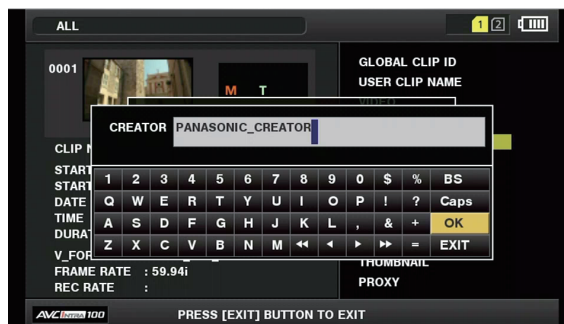

Fig. 2
- The input window (soft keyboard) for modifying metadata is displayed. (Fig. 2)